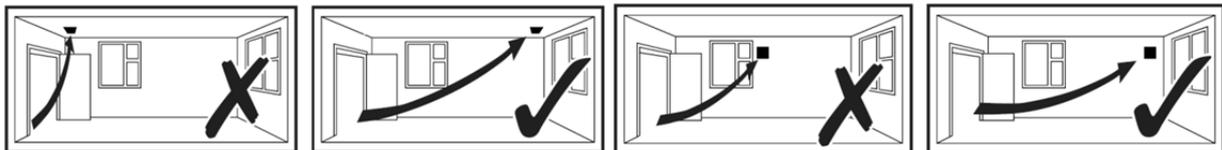

Fig.1: MONS100S/125S/150S/100PIR/100PC
1. Select and follow the appropriate wiring diagram. (Fig. 1,2 or 3)
Single speed fan. Controlled by remote switch (e.g. light switch or auto sensor) Fig.1.
Single speed fan. Controlled by the internal pullcord switch Fig.1.
Single speed with PIR (passive infra-red) detector and overrun timer. The fan starts automatically when a movement is detected and will continue to operate for the set overrun time period. Fig. 1. The fan can also be wired to a lighting circuit switch. Fig.3. so it can be started by the light switch or the PIR detector.